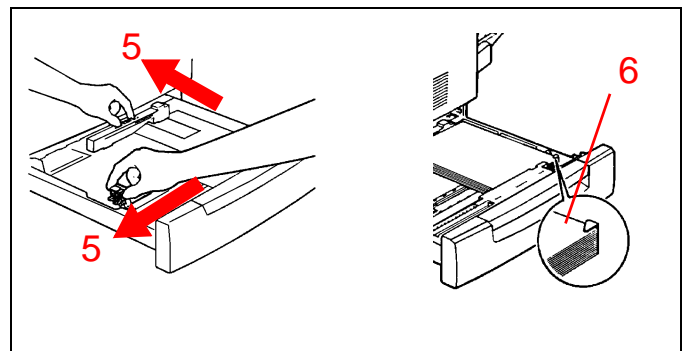

Figure 2
5. See Figure 2. Move the paper guides toward the outer edges of the paper drawer.